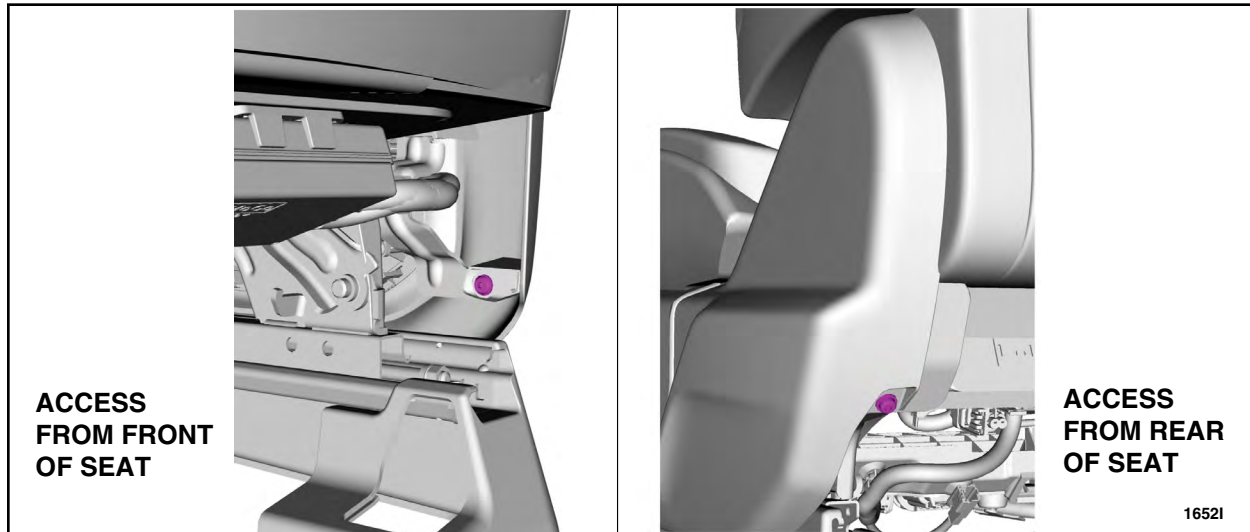

FIGURE 2
3. Remove the two side shield screws. See Figure 2.